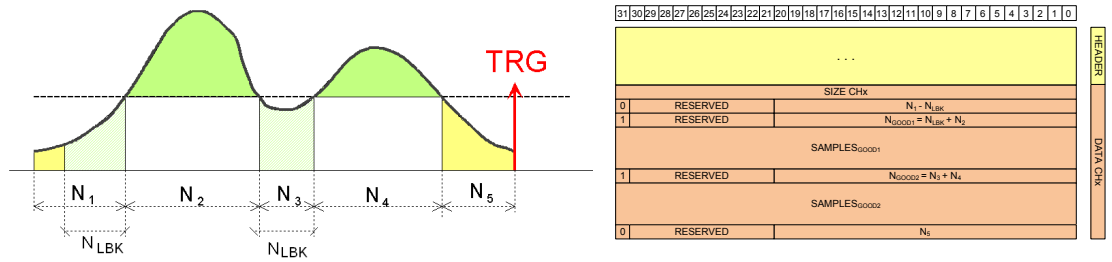

Fig. 7.12: Example with positive logic and N_{LBK} overlapping with N_3 .
3. Consider the case where N_{LBK} overlaps with N_3 ($N_3 \leq N_{LBK} < N_1$) and $N_{LFWD} = 0$. In this case all samples of N_3 are tagged as good and acquired. See for example Fig. 7.12. The same happens in case $N_{LBK} = 0$ and $N_3 \leq N_{LFWD} < N_5$.